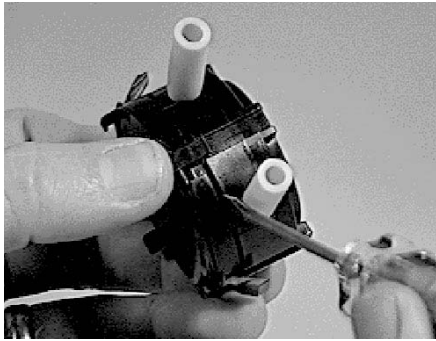

Fig. B-1
- 4: Gently depress the release tab (located between the inlet and outlet tubing ports) with your left thumb and insert a small flat screwdriver into the gap between the pump lid and body. Rotate the screwdriver 90 degrees to separate the lid from the body. Repeat on the opposite side. See Fig. B-1.